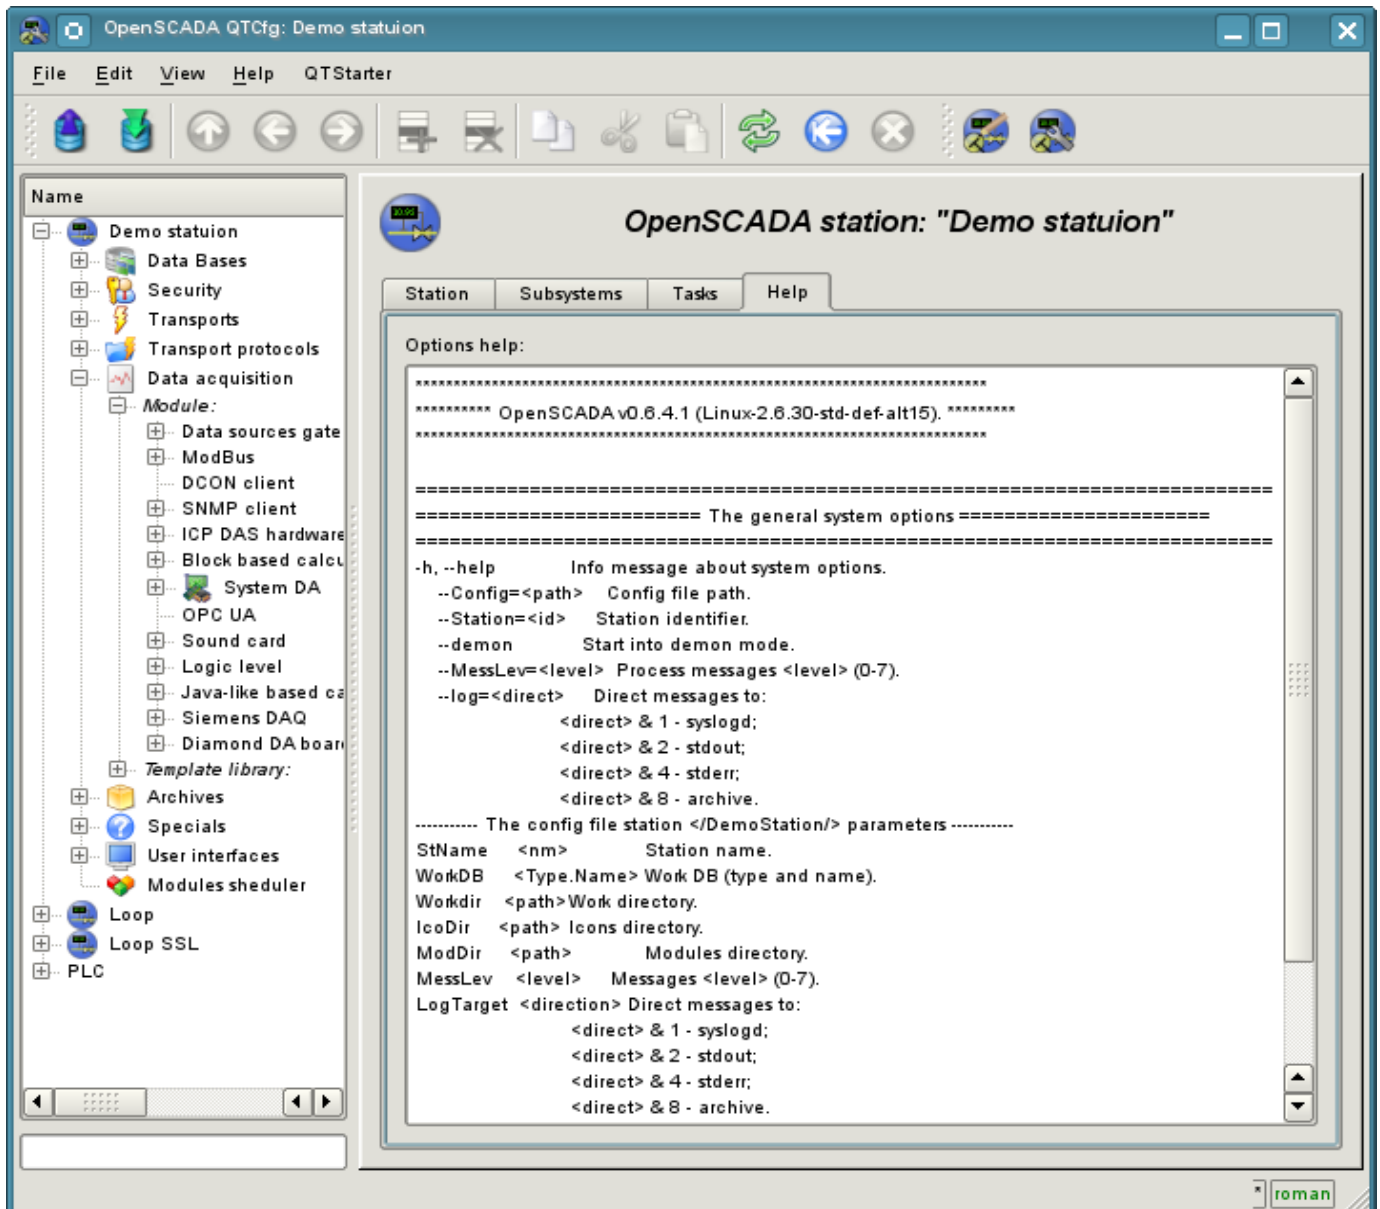

Fig. 4d. "Help" of the main page of the configuration of the station.
- Tab "Help" tab contains the brief help for that page, Fig. 4d. In this case, it is the available command line parameters and fields of configuration file for this page.